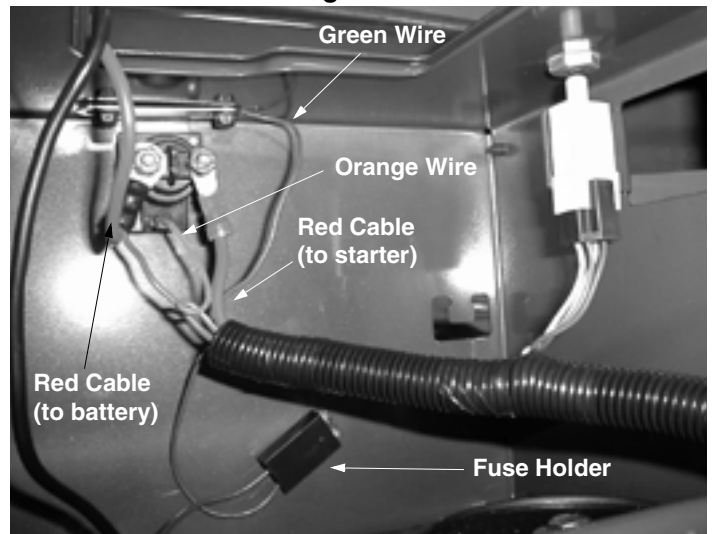

Figure 14
11. Attach wires and cables to solenoid as shown. Be sure to put star washer between fitting on green wire and frame. Plug seat safety switch connector into seat safety switch. Clip plastic fuse holder into hole in rear of frame just left of center. See Figure 14.